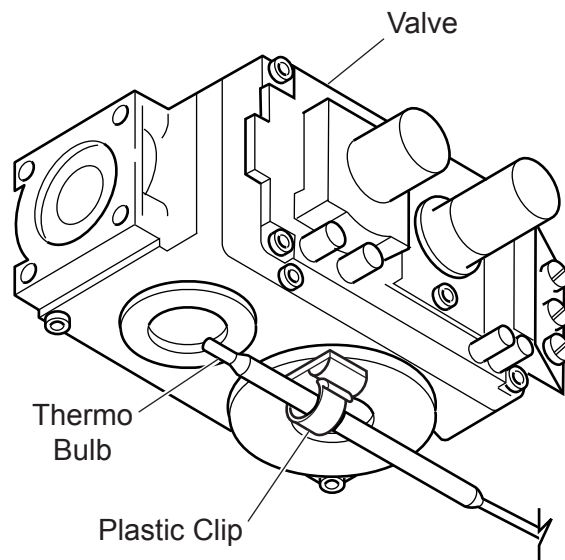

Figure 10 - Clipping Thermo Bulb into Plastic Clip.
4. Remove adhesive backing from plastic clip. Press clip to bottom of valve. Clip thermo bulb into plastic clip. *See Figure 10.*